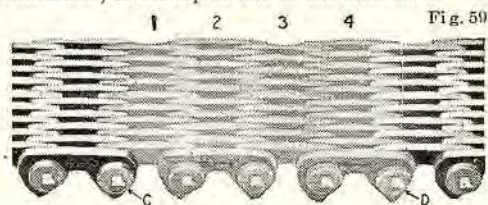

Fig. 59
Select a joint at the head of an arrow, and, with hammer and chisel, cut washer (C) (Fig. 59) until it falls off. Move to the right four links and cut washer (D), also at the head of an arrow, in the same manner.
Drive the pins from joints (C) and (D) and remove the links marked 1, 2, 3, and 4 in Fig. 59. Insert a three-link section in place of the removed section, making sure that the arrow on the new section points in the same direction as the arrows on the old chain. Bring the ends together, mesh the leaf-plates in regular order, and make connections.